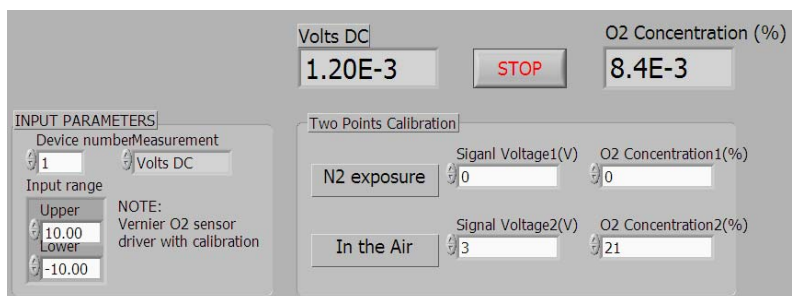

Figure 4-7. O₂ sensor calibration section of the soft front panel
9. Enter the value in the **Volts DC** text box into the In the Air **Signal Voltage2(V)** text box (see Figure 4-7).
10. Enter the value in the **O2 Concentration (%)** text box into the In the Air **O2 Concentration2 (%)** text box (see Figure 4-7).
15. Enter the value in the **Volts DC** text box into the N₂ exposure **Signal Voltage1(V)** text box (see Figure 4-7).
16. Enter the value in the **O2 Concentration (%)** text box into the N₂ exposure **O2 Concentration1 (%)** text box (see Figure 4-7).